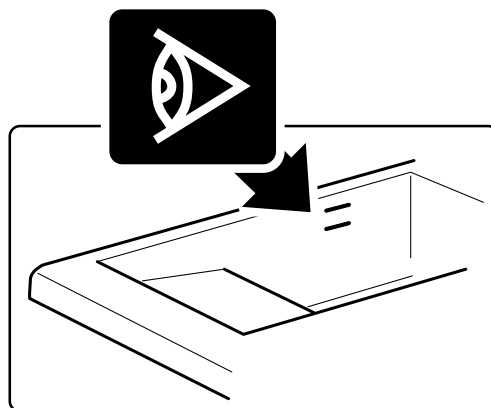

Fig. 5 Tank maximum/minimum filling level
- Always ensure that the oil level is between the **maximum** and the **minimum level** (indicated by the relief marks on the inside of the tank, see *Fig. 5 Tank maximum/minimum filling level*).
Always ensure that the oil level is between the maximum and the minimum level indicated by the relief marks on the inside of the tank (See Fig. 5 Tank maximum/minimum filling level).**